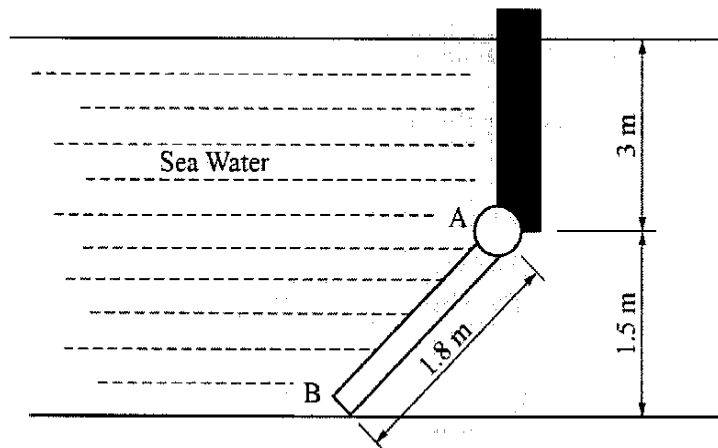

Fig Q8
- (a) the horizontal force required at the lower end of the con-rod to hold the rod at  $20^\circ$  to the centre-line of the engine; (5)
- (b) the magnitude and direction of the minimum force required at the lower end of the con-rod to hold the rod at  $20^\circ$  to the centre-line of the engine; (5)
- (c) the magnitude and direction of the reaction at the crosshead for condition in Q7(b). (6)
8. A sluice has a square door with sides of length 1.8 m hinged at point A, 3 m below the waterline as shown in Fig Q8. The mass of the door is 700 kg. The channel is full of sea water on the left hand side of the door.